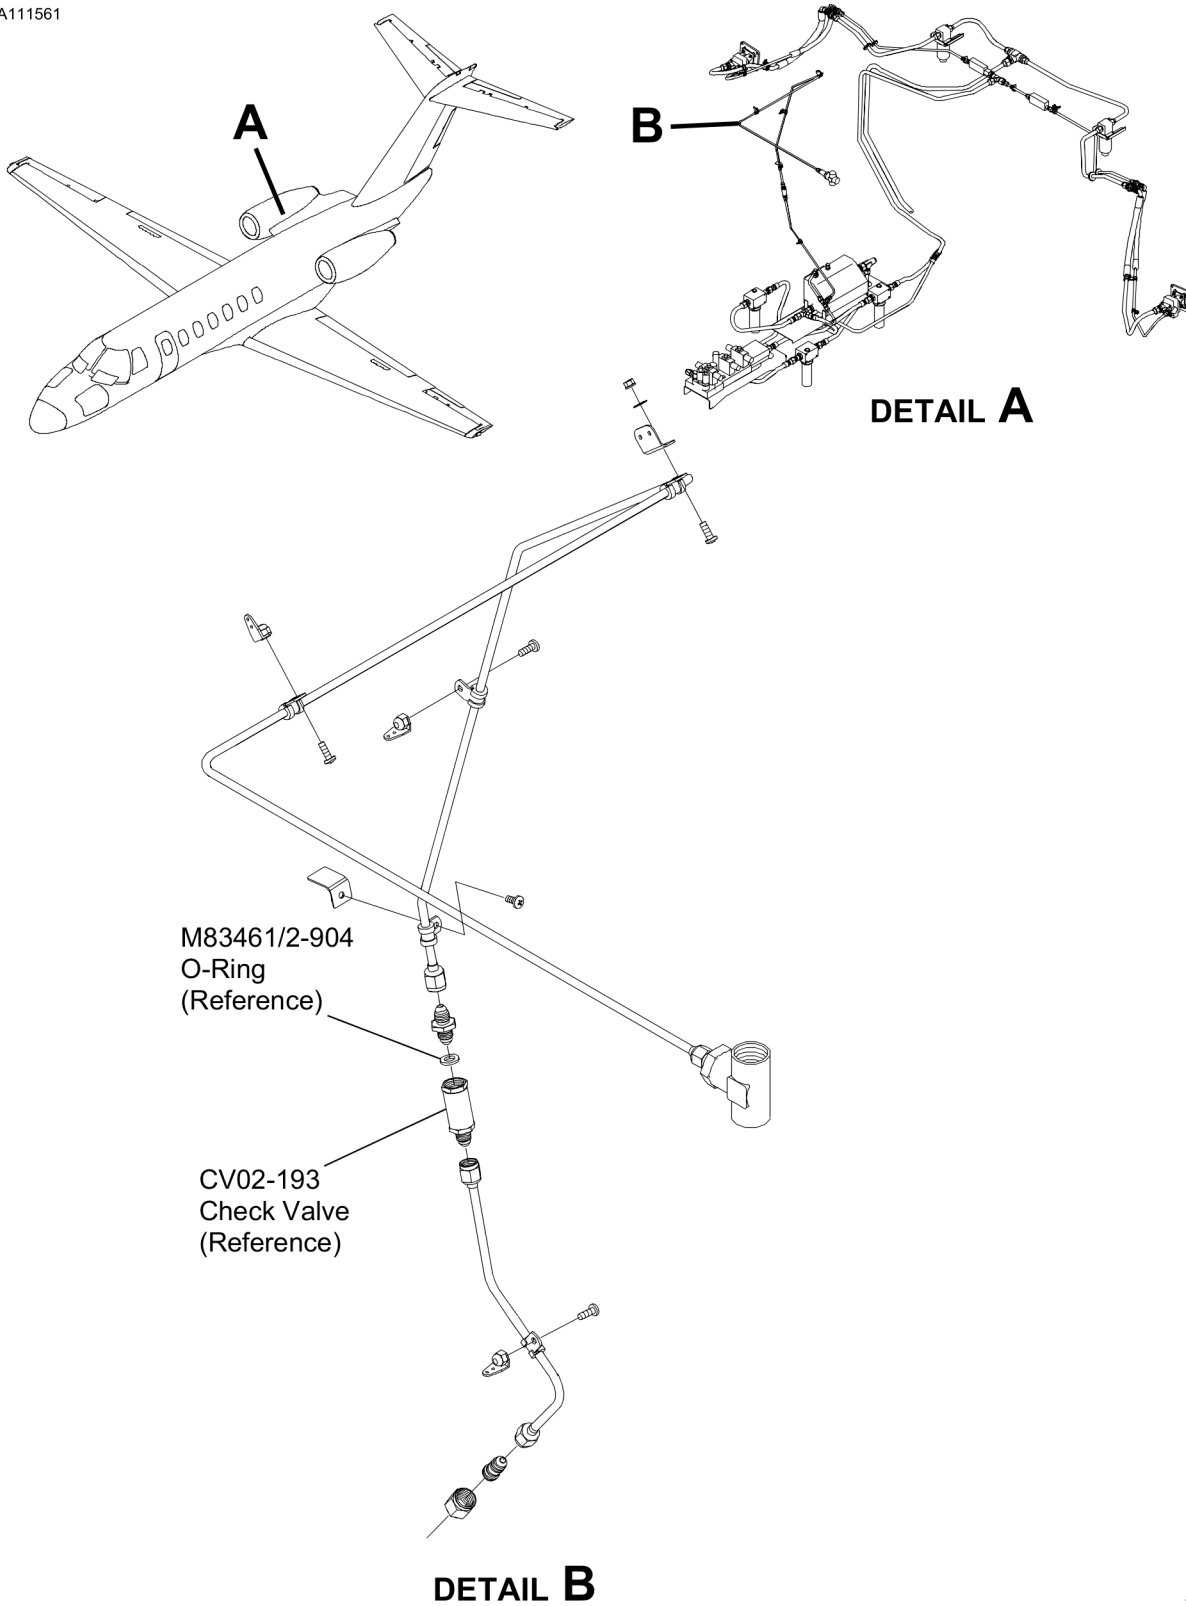

Figure 1. CV02-193 CHECK VALVE INSPECTION (Sheet 1)
3. (Refer to Figure 1, Sheet 1.) Do a visual inspection of the CV02-193 Check Valve.
4. (Refer to Figure 1, Detail A and Detail B.) Remove the current CV02-193 Check Valve.
5. (Refer to Figure 1, Detail A and Detail B.) Install a new CV02-193 Check Valve.